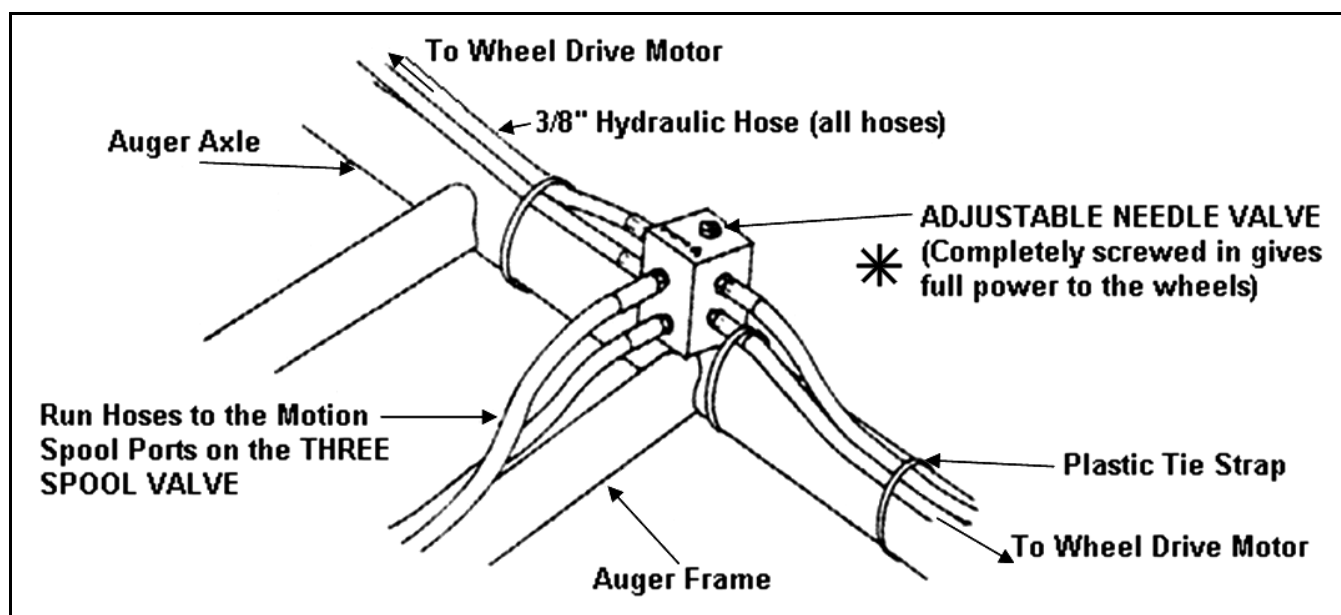

Figure 3.36
1. Connect hoses as shown in Figure 3.36.